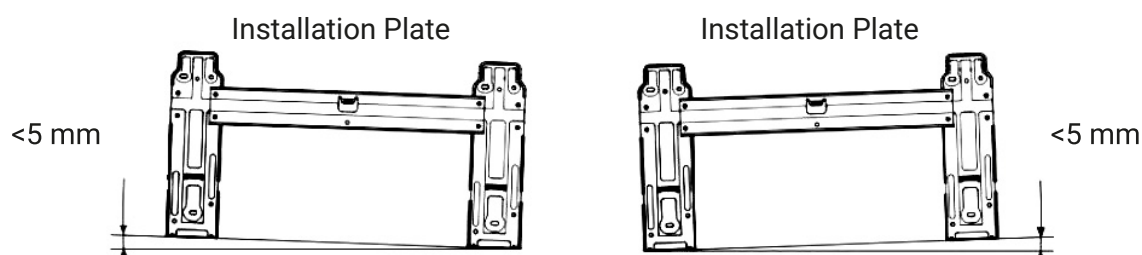

Fig.4
- Remove the metal installation plate from the indoor unit. Adjust the installation plate horizontally, the height difference between the right and left side of the installation plate should be less than 5 mm (Fig. 4).